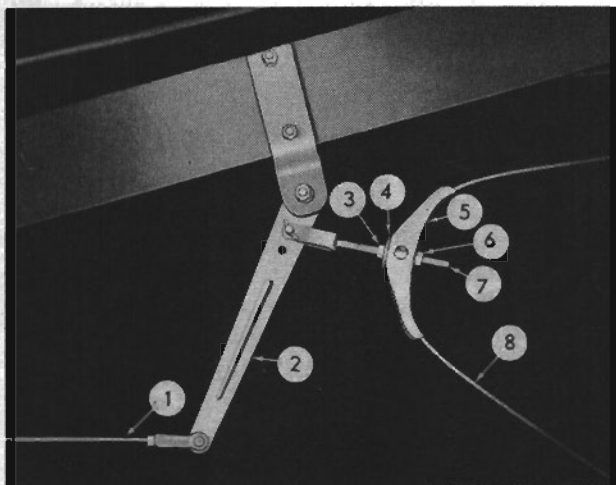

FIG. 22
Remove the adjusting nut (6, Fig. 22), slide the equalizer (5) rearward, and slip the rear cable (8) off the equalizer. Loosen the sheet metal screws holding the cable brackets to the frame side rails just ahead of the brake cable return springs, and slip the cable out of the brackets. Remove the rear wheel hub assemblies. If it is necessary to hammer on the wrench to remove the rear axle shaft nut, do it before raising the car off the ground, and with the brakes released. Remove the cable shield bracket retaining nuts holding the bracket to the backing plate. Remove the clip from the forward end of the shield and slip the shield out of the frame bracket. Push the parking brake operating lever toward the center of the brake and unhook the end of the cable from the lever. Then pull the cable forward and out of the backing plate. The rear brake cable cannot be further disassembled and must be serviced as a unit. The procedure is the same for both wheels.
When making the parking brake adjustment, the rear wheels must be off the ground. Set the control handle four notches from its fully released position. The adjustment is made at the rear cable equalizer (5, Fig. 22) located underneath the transmission. Loosen the lock nut (3) and tighten the adjusting nut (6) until the slack is taken out of the rear cable and a heavy drag is felt when rotating the rear wheels by hand. Tighten the front nut securely to maintain the adjustment. Release the control handle and check the rear wheels to make sure that a drag does not exist.